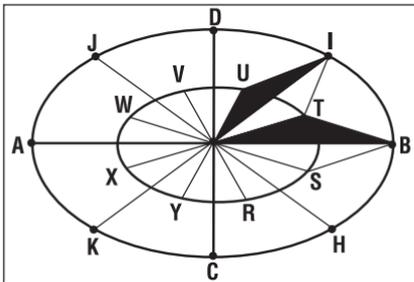

Fig. 5
5. Mark R as the midpoint between EC and EH. Mark S, T, U, V, W, X, and Y in the same way and draw lines from each of them. Draw lines CR, RH, HS, SB, BT, TI, IV, UD, DV, VJ, JW, WA, AX, XK, KY, and YC to complete drawing the star (Fig. 5).